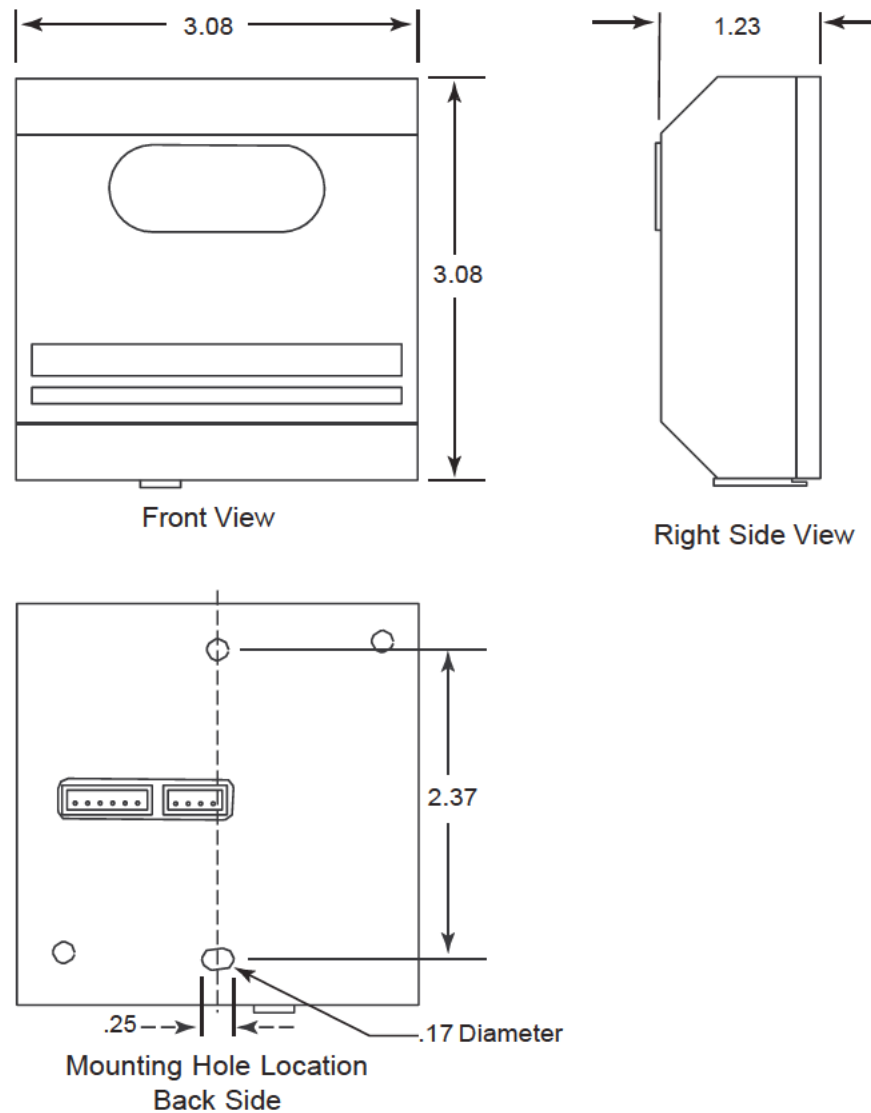

Figure 2: RI-215A Outline and Mounting Dimensions
3. Use two screws to secure the base plate to the wall. Figure 2 below shows the location of the screw holes in the base plate.